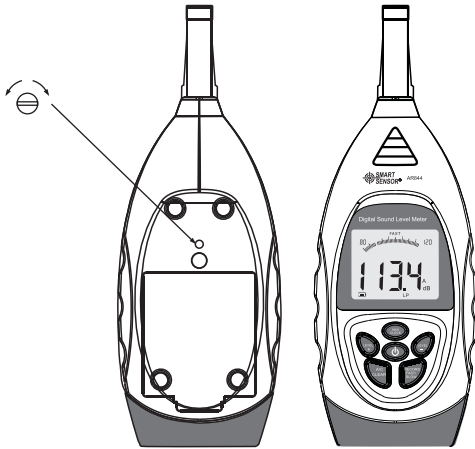

Figure 3
- Insert the microphone head into the standard calibration jack, set the standard source as 94dB@1KHZ, use a small - screwdriver adjusts the calibration knob at the round hole in battery compartment until LCD display 94.0, as shown in figure 3: